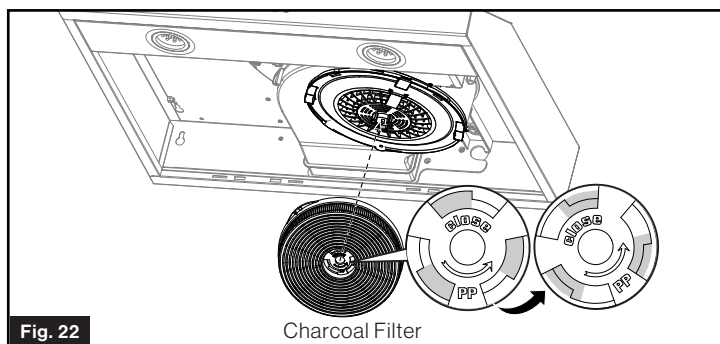

Fig. 22
2. Align the three slots to attach the charcoal filter, then install or replace by anticlockwise. (Fig. 22)